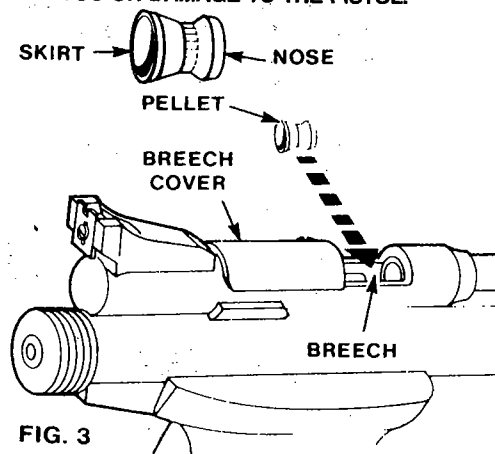

FIG. 3
- Turn the breech cover all the way to the left and pull it all the way back. (Fig. 3).
- If your pistol is a Model 1377 American Classic, place a .177 caliber pellet, nose forward (Fig. 3), or a BB into the breech. If your pistol is a Model 1322 Medalist, place a .22 caliber pellet, nose forward (Fig. 3) into the breech.